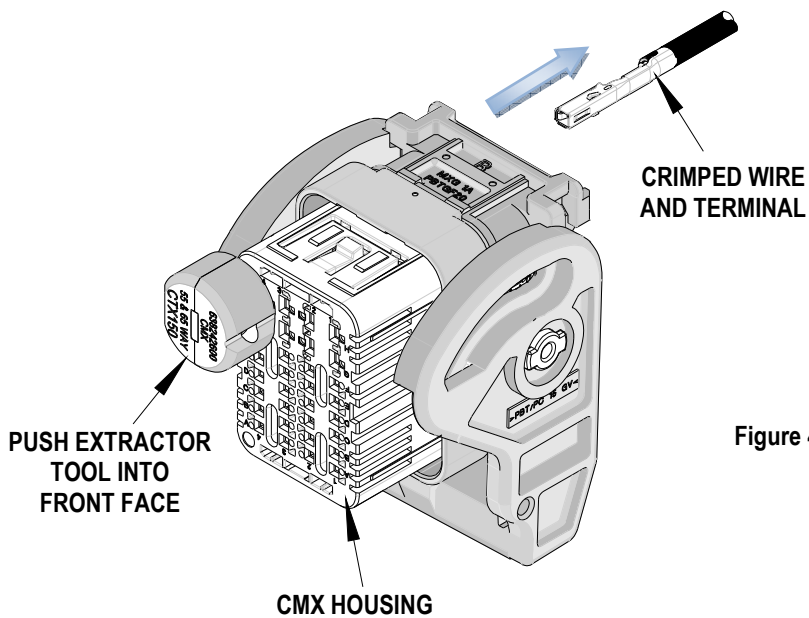

Figure 4
2. Push extractor tool into the desired slots until it clicks or comes to a stop. Do not force the extractor tool any further or there can be damage to the housing. See Figure 4.